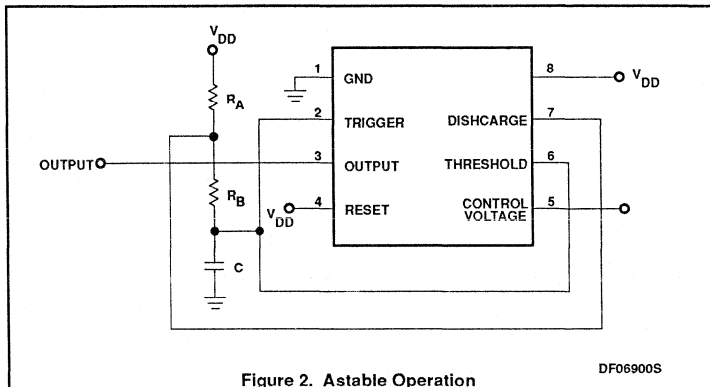

Figure 2. Astable Operation
2. Astable timing is calculated using the following equation: $f = \frac{1.38}{(R_A + 2R_B)C}$. The components are defined in Figure 2.
supply can be high unless the timing components are high impedance. Therefore, high values for R and low values for C in Figures 2 and 3 are recommended.
If the circuit is connected as shown in Figure 2, it will trigger itself and free run as a multivibrator. The external capacitor charges through R_A and R_B and discharges through R_B only. Thus, the duty cycle (D) may be precisely set by the ratio of these two resistors. In this mode of operation, the